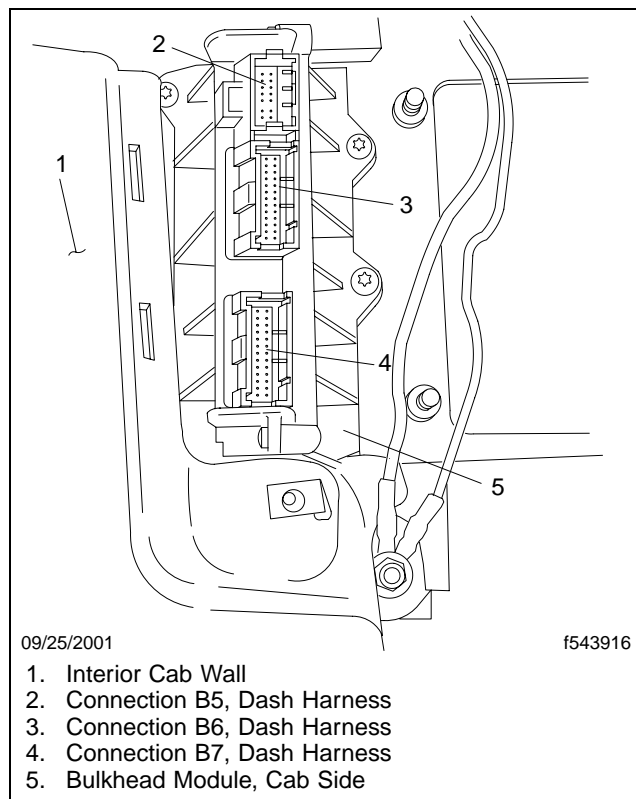

Fig. 3, Bulkhead Module (cab side)
4. Unplug bulkhead harnesses B5–B7 from the Bulkhead Module on the cab side of the frontwall. See **Fig. 3**.